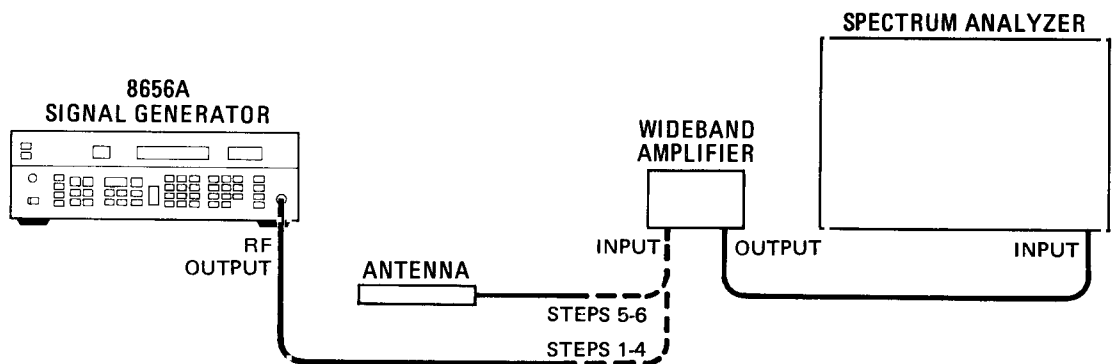

Figure 4-9. Output Leakage Test Setup
PROCEDURE: 1. Connect equipment as shown in Figure 4-9.
5. Connect the one-inch loop antenna to the analyzer through the 26 dB amplifier as shown in Figure 4-9. Hold the end of the loop antenna cylinder in contact with the front surfaces of the Signal Generator. All signals and noise should be below the reference graticule line (i.e., below -107 dBm).